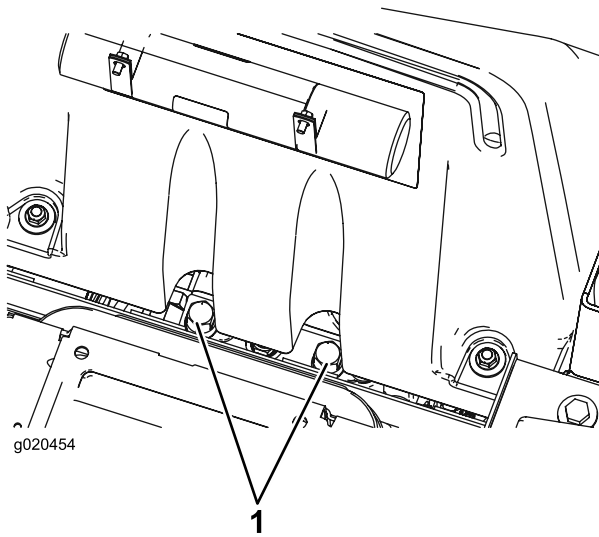

Figure 31
1. Raise the seat. The bypass valves are located below the front of the fuel tank (Figure 31).